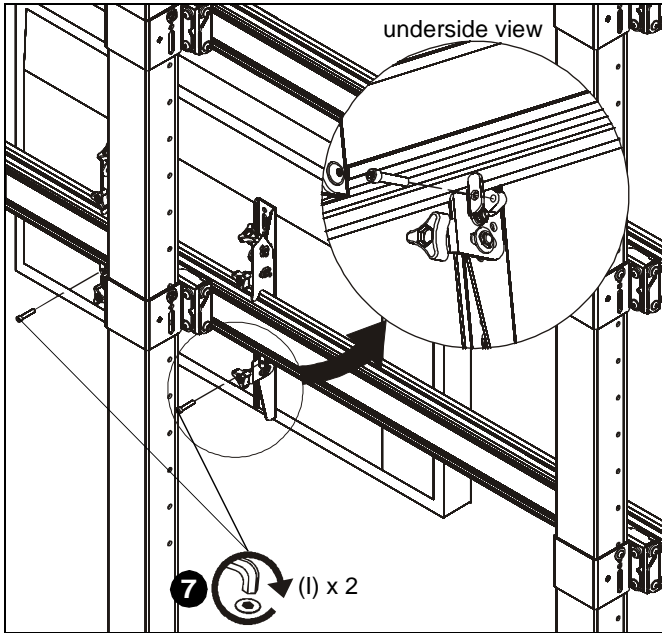

Figure 14
6. Starting from the bottom and working up, hang interface brackets (Y and Z) to display rails (K or L). (See Figure 14)
7. Use 1/4-20 x 1 1/4" socket head cap screws (I) to secure interface brackets (Y and Z) to rails for each display. Screws must engage through both holes to be fully secured. (See Figure 14)